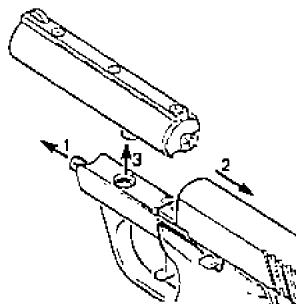

FIGURE 11. BARREL REMOVAL
4. Hold slide firmly and pull it back about 1/4 inch then lift and remove barrel from the receiver . . . see Figure 11.